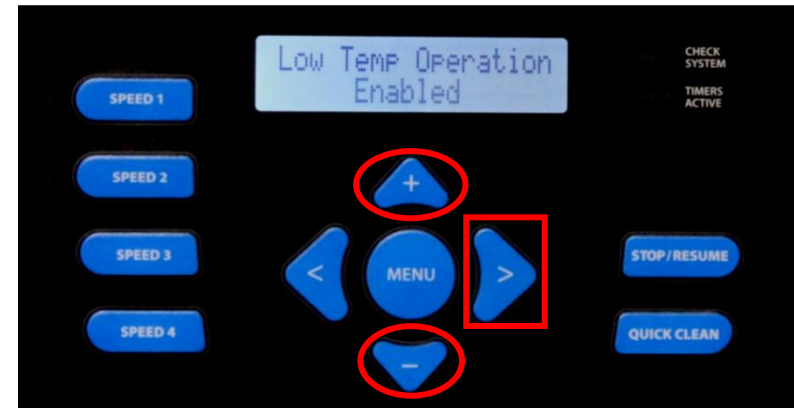

Fig 46
15. At this point you will be asked to enable or disable the Low Temp Operation (Default is Disabled) by pressing the  &  buttons.(fig 46). Enabling this feature will turn on the EcoStar, if stopped, to protect the drive . Press the  button to continue.